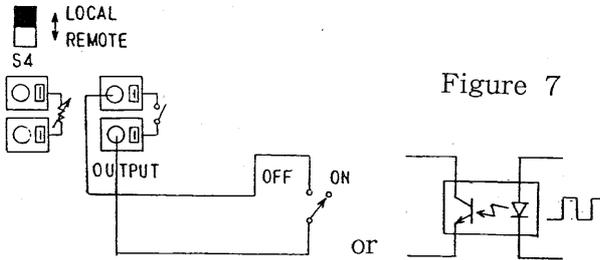

Figure 7
- 2) Connect the external contact signal to the OUTPUT terminal on the rear as shown in Figure 7.